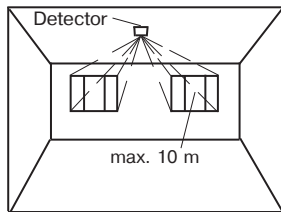
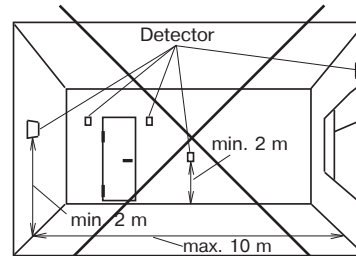

Figure 3 – Installing the Detector on the Ceiling
Figure 7 – Unauthorized Detector Installation Places
- it is recommended to install the Detector at least 2 m height (see examples of installation in Figures 3 – 6);
- distance (L) between the Detector and the farthest point of the monitored glass should not exceed 10 m;
Correct Detector installation options see Figures 3 – 6, the incorrect one – Figure 7.